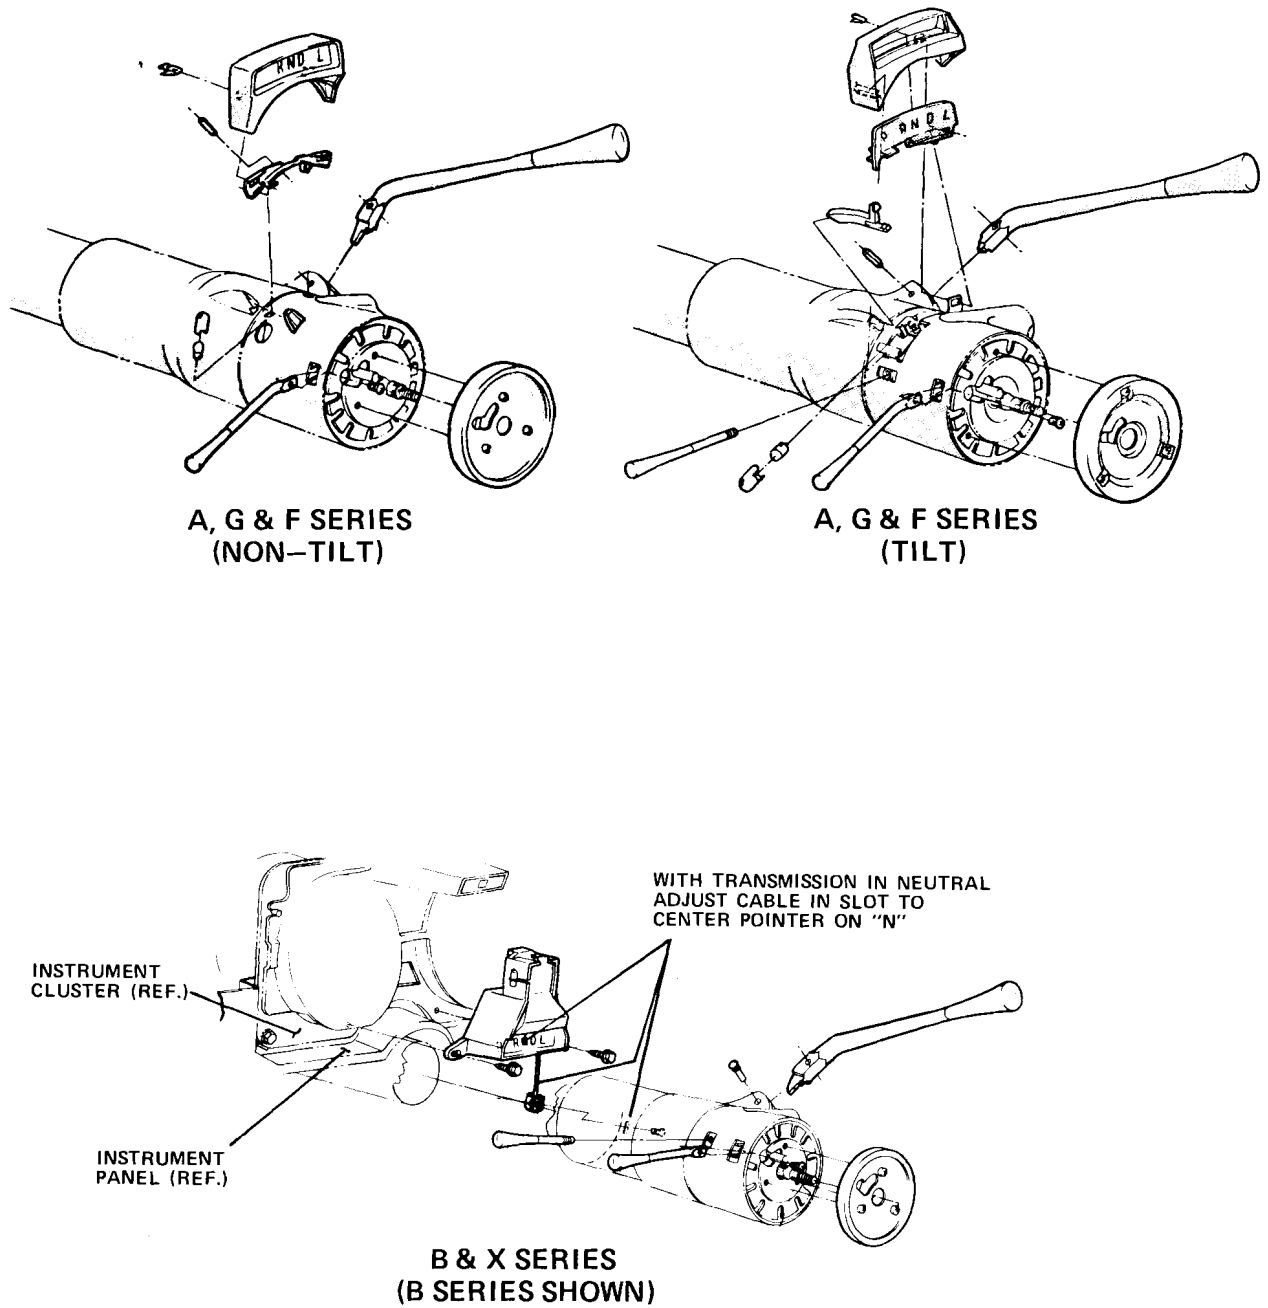

Fig. 9-31 Installation of Shift Indicator
6. Remove shift indicator (pointer) cable attaching screw from shift bowl on models with automatic transmission (Fig. 9-31).
9. Install shift indicator (pointer) cable attaching screw to shift bowl on models with automatic transmission (Fig. 9-31).